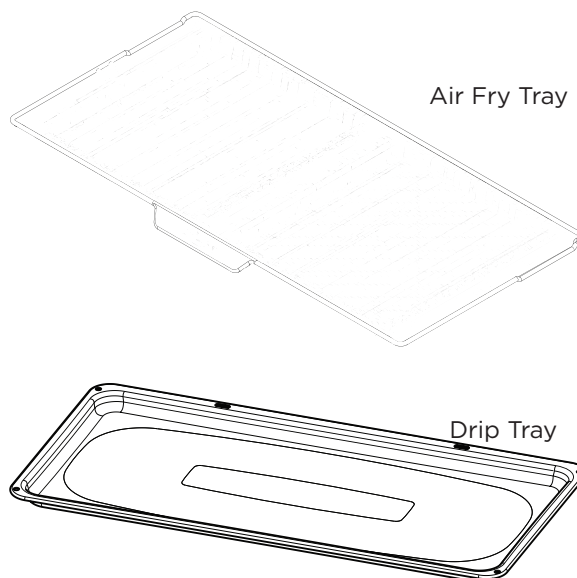

Figure 14: Air Fry Tray and Drip Tray
- When using Air Fry, place food on rack position 4 for best results. Place drip tray on rack position 2 to catch any crumbs or drippings. See figure 14 for Air Fry tray and Drip tray.